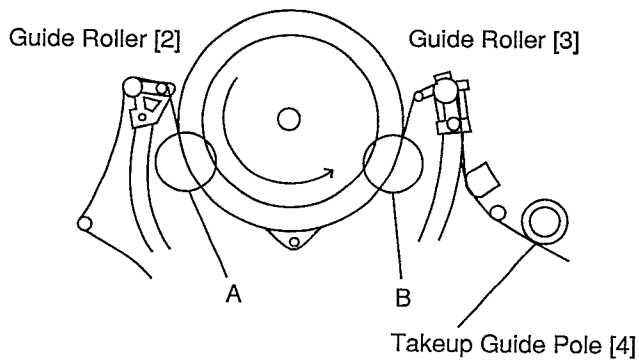
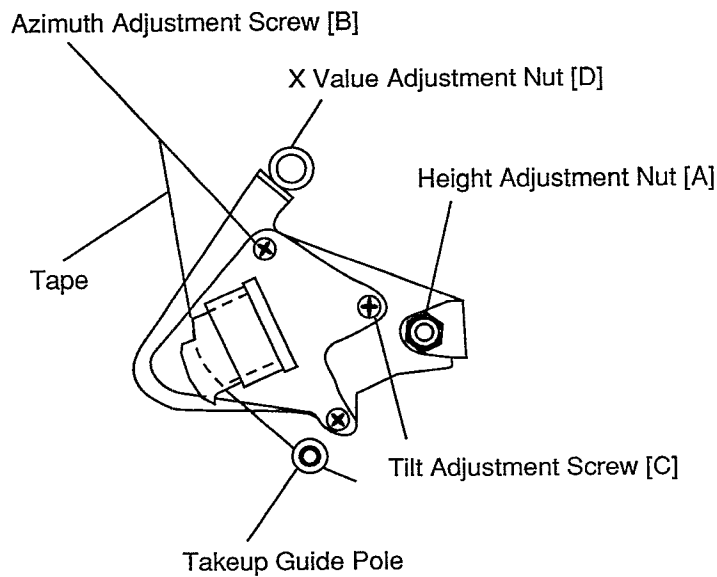

Fig. M3
Fig. M6
1. Playback (on forward) a cassette tape and check that the tape runs without curling or creasing at the guide rollers [2] and [3], and at the points A and B on the lead surface. (Refer to Fig M3 and M4)
2. If curling or creasing is apparent, align the height of guide rollers by turning the top of guide rollers [2] and [3] with Post Adjustment Screwdriver. (Refer to Fig. M3 and M5)
1. Playback a cassette tape. Looking at the lower edge of the Control Head with the tape in motion, ensure that the lower edge of the tape runs 0.15~0.25mm above the lower edge of the Control Head. If it is not correct, turn the Height Adjustment Nut [A] slightly in either direction as necessary to correct it. Turn clockwise by seeing from the top to lower the head and counterclockwise to raise it. (Refer to Fig. M6 and M7)
Playback a cassette tape and check that the tape running between Takeup Guide Pole [4] in Fig. M3 and Audio Control Head has no slack. If tape has slack, align the Control Head by turning tilt adjustment screw [C] in Fig. M6 so that the tape has no slack.